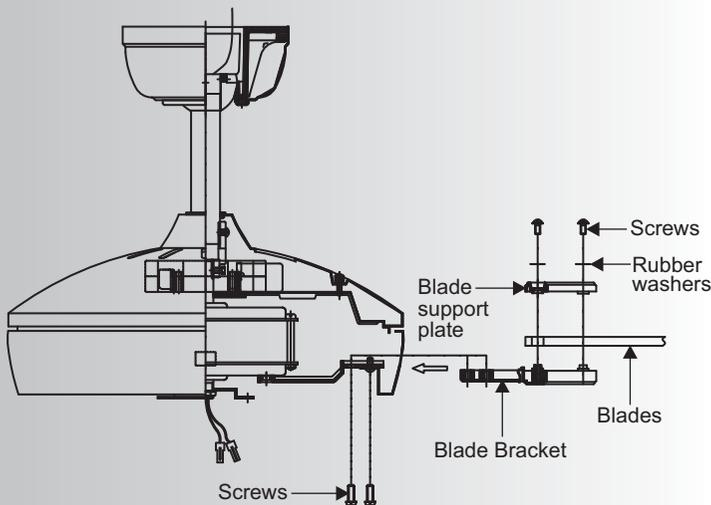

Fig. 15
**Step 2.** Attach each blade assembly to the motor using the "Pre-Installed" mounting screws in the blade bracket. (Fig 15)